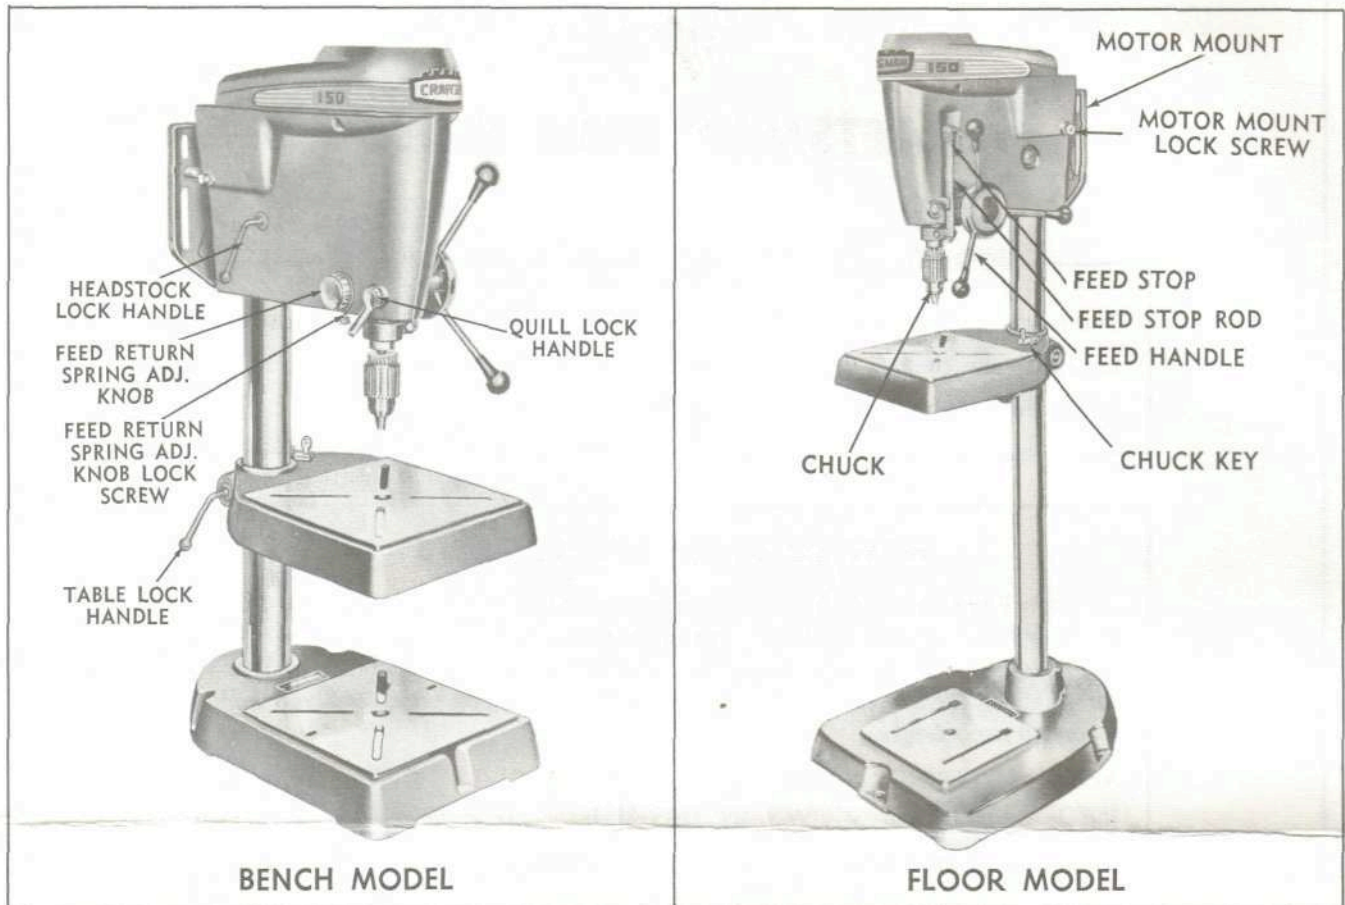

FIGURE 1
Place **feed handles** on tool as shown in Fig. 1.
Place the chuck key in the hole provided at side of table support, see Fig. 1.
To install motor loosen the **motor mount lock screws**, Fig. 1, until the **motor mount** may be removed. Fasten the motor to the motor mount with the bolts, nuts, and washers provided so that when motor mount is reinstalled on the tool, the larger portion of the mount will be down. For convenience, if your motor has a switch, and rotation will be correct, place motor on motor mount so that the switch is on the left side. **Direction of rotation of the spindle must be clockwise when viewed from pulley end of spindle.**
If the automatic feed return fails to return the chuck to the top of the stroke or if the return action becomes sluggish, the tension may be adjusted as follows; Lock the chuck at the top of its stroke using the quill lock handle. Hold the **feed return adjusting knob** firmly and release the **feed return adjusting knob lock screw**, Fig. 1. Turn the adjusting knob counter-clockwise and re-tighten the lock screw. Release the quill lock handle and run the chuck down. If spring tension is still not sufficient repeat the above adjustment until it is.
To change the locked position of table lock handle or headstock lock handle (Fig. 1), remove handle and rotate table lock, item 67, or headstock lock, item 51, 180°. Re-insert and tighten lock handle.
The **Quill Lock Handle**, (Fig. 1) for greatest ease of operation should point **down** when **locked**. To change the position of the handle, loosen the set screw, remove handle from hex head screw and rotate to correct position. Replace handle and tighten set screw.